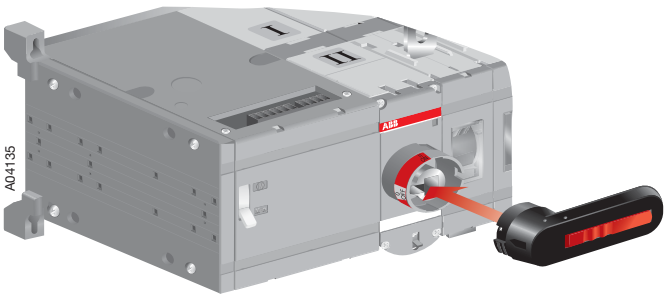

Figure 6.6 Attaching the handle
2. Attach the handle by pressing it to the change-over switch panel until it clicks into place. You can attach the handle in both positions (I, 0, II), see Figure 6.6.